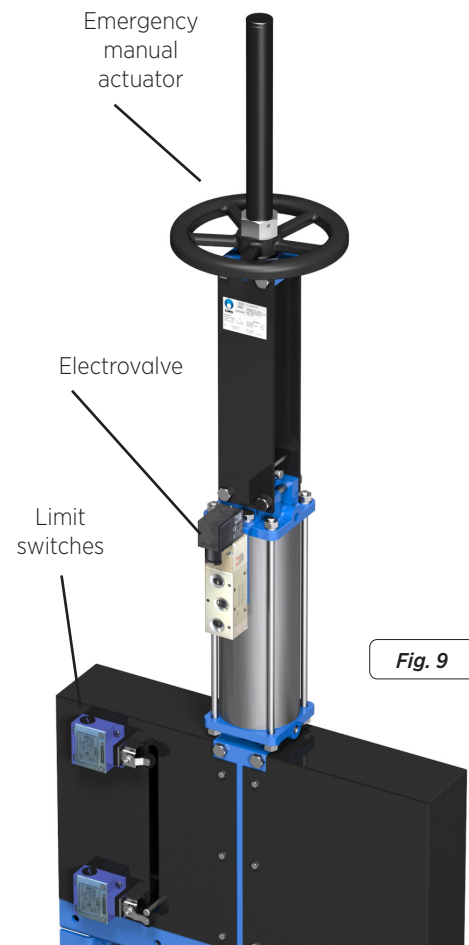

Fig. 9
- The standard floor stand is 800 mm high (fig. 9). Other floor stand measurements available to order.